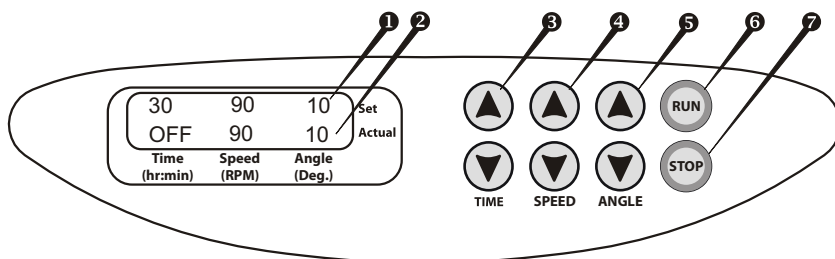

Fig.1. Control panel
- 4.2. The display will turn on with the upper line showing time, RPM and tilt angle set earlier (fig. 1/1) and the lower line showing current readings of the same parameters (fig. 1/2).
With the help of the “▲” and “▼” TIME keys (Fig. 1/3) set the required working time interval in hours and minutes (increment - 1 min). If the button is pressed for longer time the speed of increment becomes bigger.
Note! If the operation time is not set and the timer indicator shows 0:00, pressing RUN key (Fig. 1/6) will allow continuous use until the STOP key (Fig. 1/7) is pressed again.
With the help of the “▲” and “▼” SPEED keys (Fig. 1/4) set the required rocking intensity in revolutions per minute (increment 1 oscill/min). If the button is pressed for longer time the speed of increment becomes bigger.
With the help of the “▲” and “▼” ANGLE keys (Fig. 1/5) set the necessary angle (increment 1°). If the button is pressed for longer time the speed of increment becomes bigger.
- 4.7. Press the RUN key (Fig. 1/⑤). The platform will start rocking and the timer indicator will start counting up the time interval (with 1 min precision).
- 4.8. If the platform is overloaded, the operation process tries to restart rocking three times (indication: DRIVER ERROR), if this operation fails, the display shows the flashing reading OVERLOAD accompanied by the repetitive sound signal until the STOP key (Fig. 1/⑦) is pressed. Eliminate the causes of overload before restarting operation (see p. 4.6).